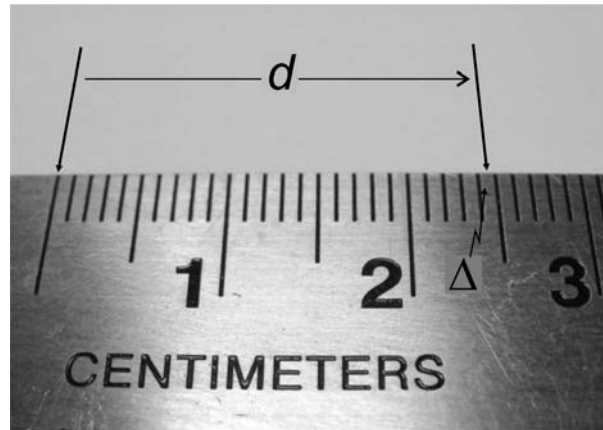

Fig. 1 A centimeter ruler reading.
1. What is the length, d , in millimeters in **figure 1** ? Include an estimate for the fraction of the millimeter - Δ - in the value for d .